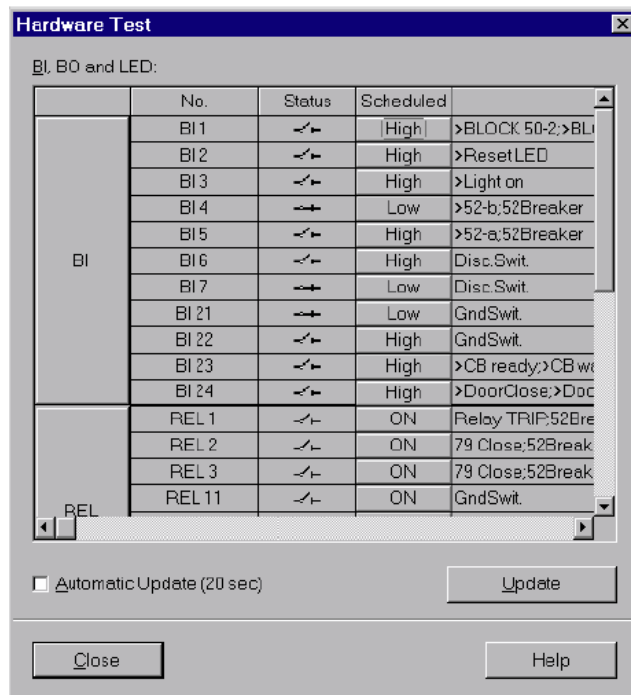

Figure 3-24 Test of the Binary Inputs and Outputs — Example
- Double-click in the list view on **Device inputs and outputs**. The dialog box with this name is opened (see Figure 3-24).